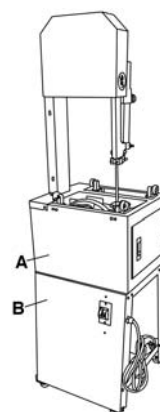

FIGURE 8
Place the bandsaw base (A) Fig.8 onto the top of the stand (B) and line up the stand and base corner mounting holes. From the inside of the stand, fix the bandsaw base to the stand using hex. bolts.